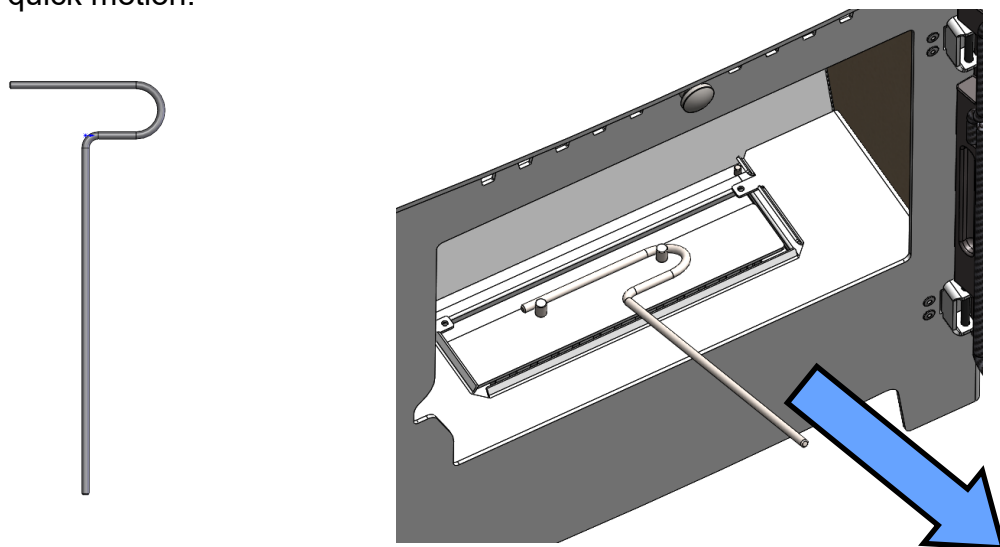

Fig. 28.
- Take the hook end of the operating tool and engage onto the two pins of the closure plate. See Fig. 28.